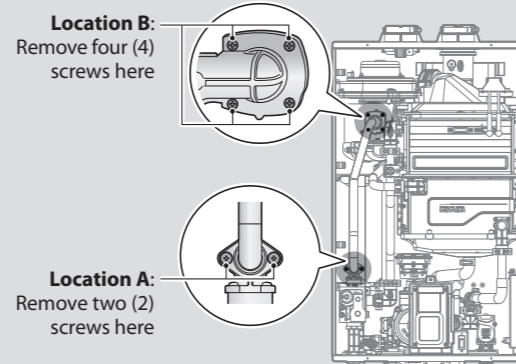

Figure 3. Detaching Gas Valve from Gas Inlet Pipe and Fan Motor Assembly
- Use a Phillips screwdriver to remove the two screws at Location A - the connection below the Gas Valve where it connects to the pipe. See Figure 3 for reference. Once the screws are removed, carefully separate the pipe from the Gas Valve.